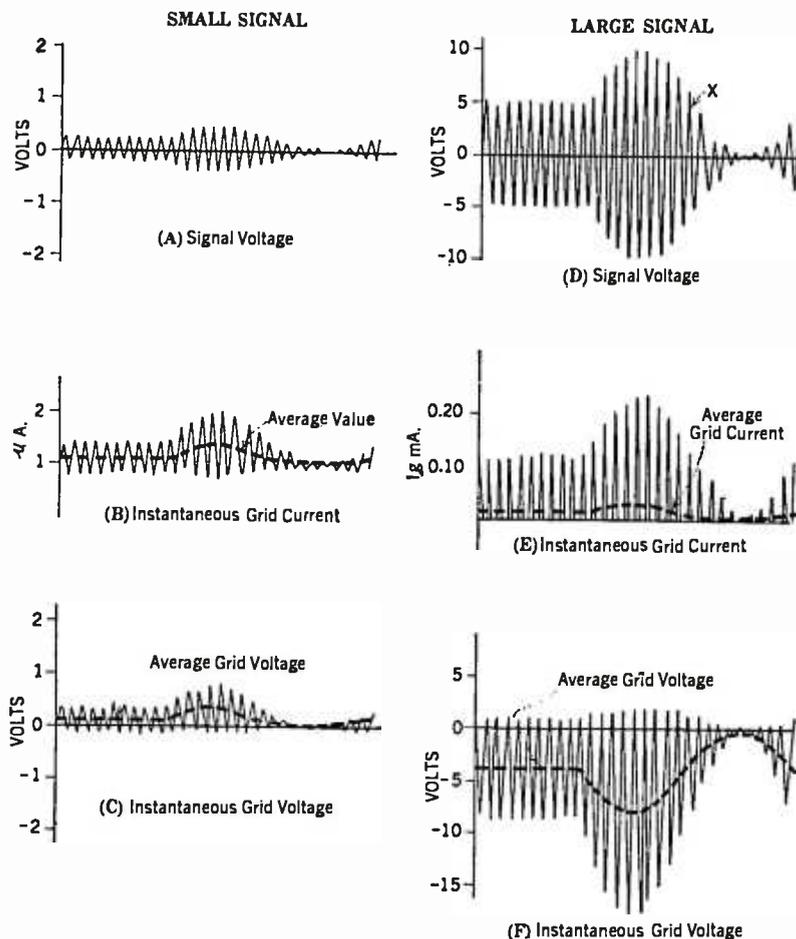

Fig. 1—Comparison of grid action with grid leak-condenser detection of large and small signals.
The difference in the two cases is shown in Fig. 1. With small applied radio-frequency voltages the variation in grid current caused by this small signal is not great enough to reduce the grid current to zero. It is to be remembered that in the grid-leak detector there is always a small but very definite grid current flowing, and that this current is necessary for the functioning of the detector. The effect of the radio signal voltage, such as shown at (A) in Fig. 1 is to cause this current to vary with the signal as shown at (B). The dotted line in (B) indicates the average value of grid current, which is seen to vary in amplitude in accordance with the modulation of the signal. This varying average value of grid current must flow through the grid leak-condenser combination, and in doing so produces across the combination an audio-frequency voltage drop that, being applied between the grid and filament of the detector tube, is amplified by the detector acting as an audio-frequency amplifier. The effect of this audio-frequency voltage drop is shown in (C) of Fig. 1, where the dotted line represents the average grid voltage, which is seen to vary in value in accordance with the signal amplitude and with the rectified grid current.
current for the greater part of the cycle. This is shown in Fig. 1 where (D) represents the radio voltage and (E) shows the grid current, which now flows only for a short time each cycle. The grid voltage during detection of the signal is shown at (F). The average value of this voltage, indicated by the dotted line, is seen to vary in accordance with the signal modulation, and is an audio-frequency voltage that is amplified by the detector tube acting as an audio-frequency amplifier. The average grid voltage becomes more negative as the signal increases in amplitude because the pulses of grid current at each positive crest of the signal then become larger, charging the grid condenser with more electrons and making the average grid voltage more negative. When the detector is adjusted properly some of the charge leaks off the condenser through the grid leak during the part of the cycle when no grid current is flowing. The quantity of charge leaking off the condenser in this way between the impulses of grid current is just equal to the charge supplied by the impulse, and at the same time the amount the average grid potential goes negative is proportional to the size of the impulses of grid current shown at Fig. 1 (E).
In a properly adjusted power grid detector the average grid potential goes sufficiently negative to keep the grid from ever getting very positive, as shown in Fig. 1 (F). This is because the impulses of grid current become very large when the grid becomes a few volts positive. Thus with large signals the average grid potential stays sufficiently negative to allow the grid to become only slightly positive each cycle, and as the signal strength varies the average grid potential varies so that this stays true all the time. Of course, when the signal is extra large the grid becomes slightly more positive during the crest of the cycle in order that the impulses of grid current may be larger, as shown in (F), but in any case the amount of positiveness is small compared with size of the signal voltage because only a small positiveness will cause the grid current impulses to be very large.
In order to prevent amplitude distortion in the grid leak-condenser power detector it is necessary to eliminate all plate detection. Reference to Fig. 1 (F) shows that distortionless power grid rectification can be obtained only when the detector tube gives distortionless amplification of grid potentials ranging from approximately zero to a negative value of twice the crest amplitude of the radio-frequency signal voltage. This is true because Fig. 1 (F) shows that during detection the grid potential varies from about zero to a negative value approximately equal to twice the crest amplitude of the signal—twice the amplitude of the signal measured from its average value shown by the dotted line in Fig. 1 (F)—and distortion will be present unless this variation of grid potential is over a straightline part of the plate-current characteristic. That is to say, plate rectification can be avoided only by operating on a straight line part of the plate characteristic.
which can be put out by a grid leak-condenser power detector is theoretically just *one fourth* of the undistorted power which the same tube can put out as an audio-frequency amplifier, the plate voltages being the same in the two cases. This can be seen from Fig. 1 (F), where it is evident that the average grid voltage (which is amplified in the plate circuit and becomes the audio-frequency output of the detector) swings through only half the range of voltage that the radio-frequency signal goes through. As power is proportional to the square of the voltage, the audio-frequency power output is one fourth the power capacity of the detector tube acting as a distortionless amplifier.